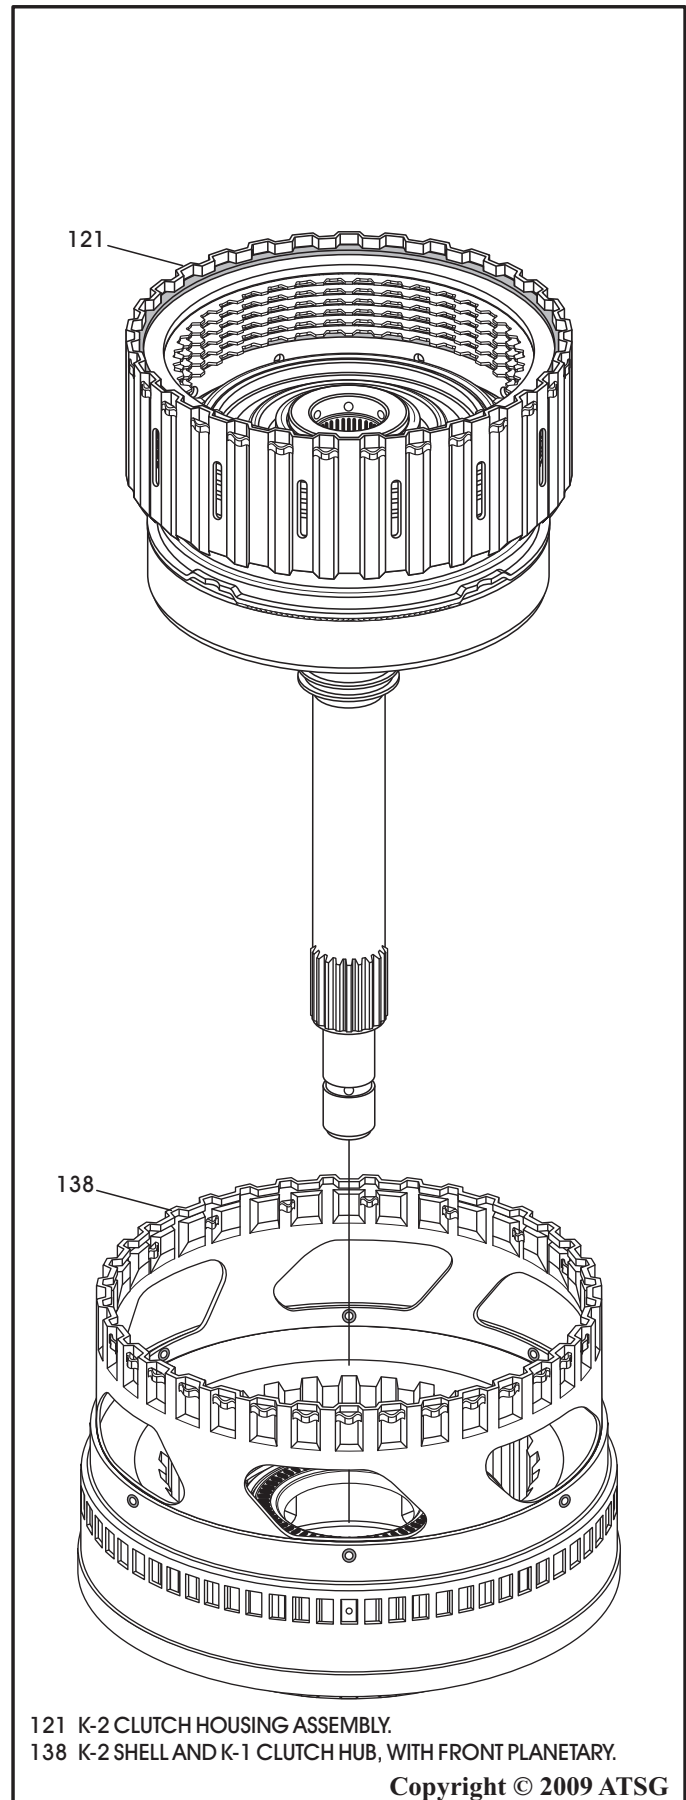

Figure 99
3. Separate the K-2 clutch housing and K-2 shell assembly, as shown in Figure 99.